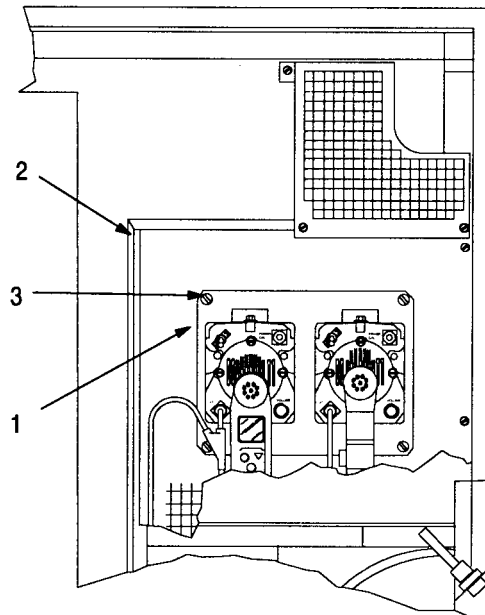

Figure 1-12. RRA Mounted on Rear Control Panel
(1) RRA Setup in Mobile Mode.
(a) The RRA (1, figure 1-12) is positioned on side of rear control panel (2) for mobile mode operations. The RRA is fastened to side panel of rear control panel using four permanently attached knurled-head screws (3).